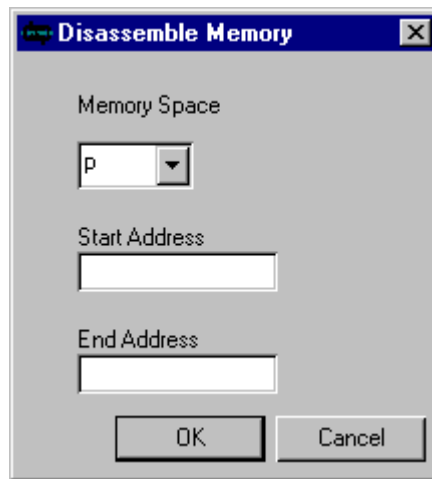

Figure 5-8. Disassemble Memory Dialog Box
1. From the **Display** menu choose **Disassemble**, then select **Memory Block**. The dialog box in Figure 5-8 appears.